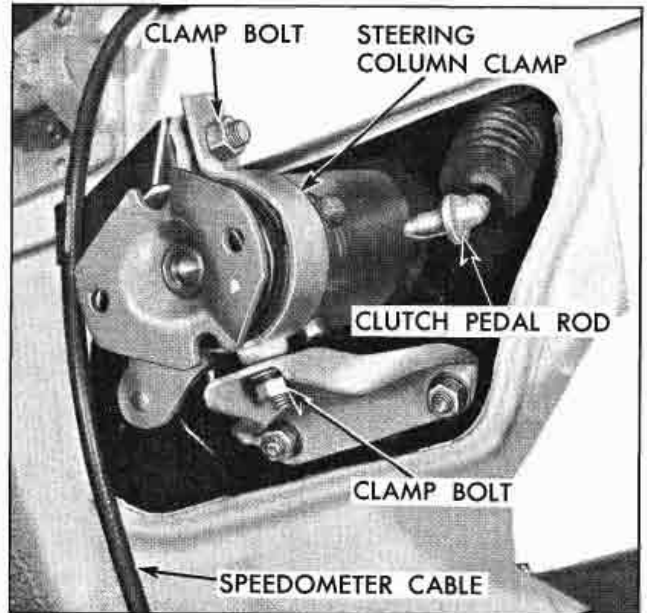

Fig. 7-12 Steering Column Lower Retaining Clamp
3. Remove speedometer cable from retainer and remove nut from lower clamp stud (Fig. 7-12).